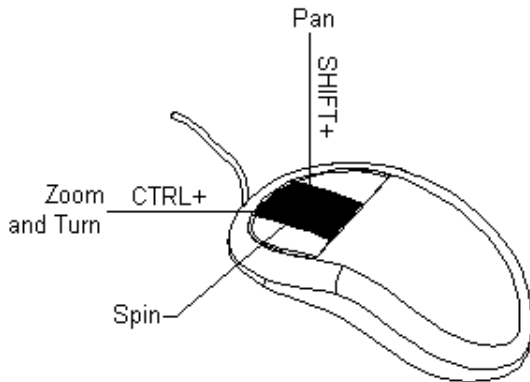

Figure 1-27 Functions of the middle mouse button in the 3D mode
3. Figure 1-27 shows the functions of the middle mouse button in the 3D mode. The middle mouse button is used to spin the model in the drawing area and view it from different directions.